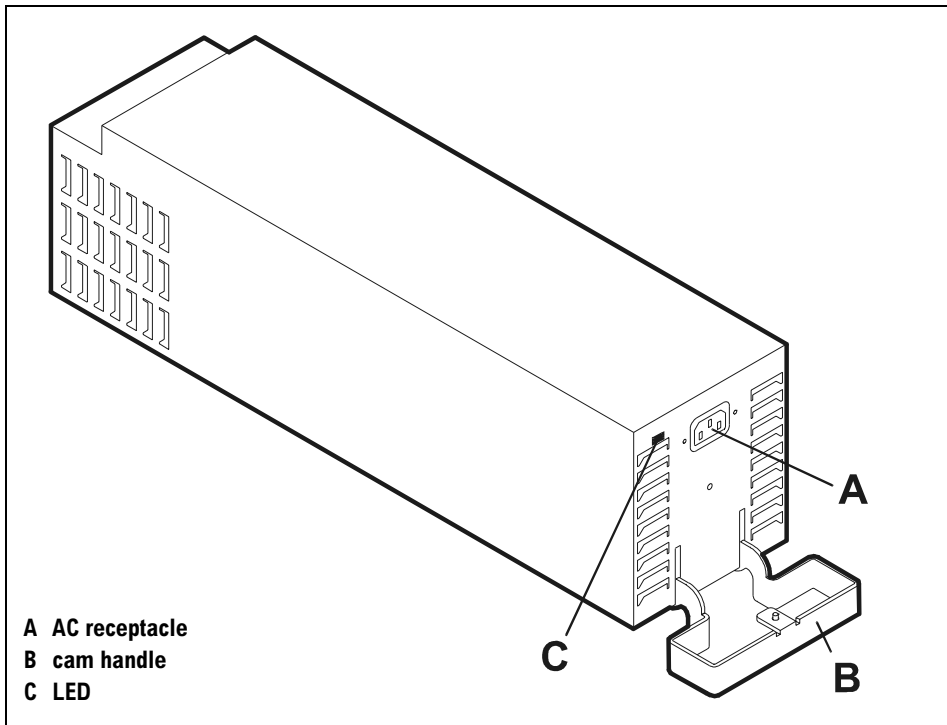

Figure 7 Power Supply
Redundant, hot-pluggable 450-watt power supplies convert wide-ranging AC voltage from an external main to stable DC output and deliver it to the backplane. Each power supply has two internal blowers, an AC receptacle (A in Figure 7), a cam handle (B) with locking screw, and an LED (C). Internal control prevents the rear DC connector from becoming energized when the power supply is removed from the disk system.